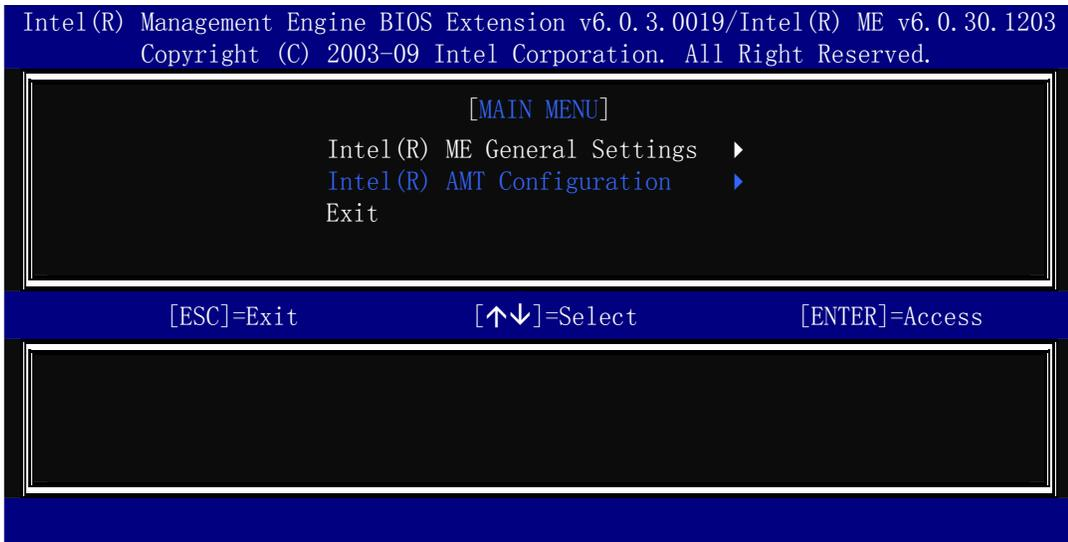

Figure A-4: Intel® AMT Configuration
Step 5: Select Intel® AMT Configuration and press Enter (Figure A-4).